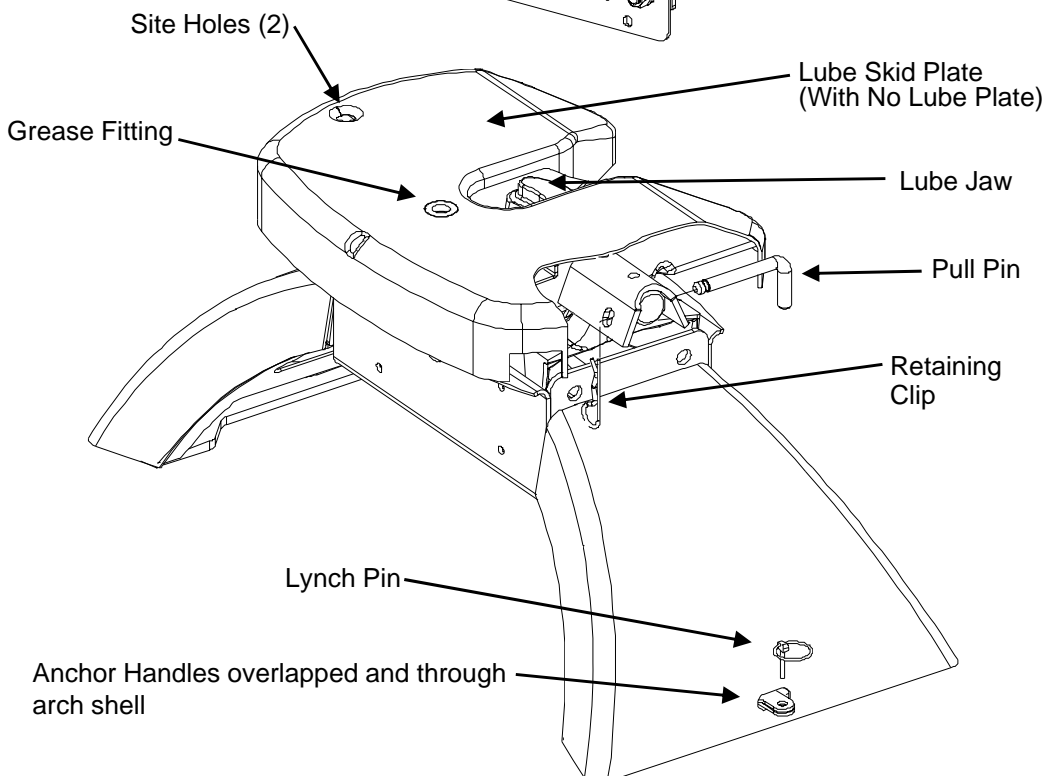

Figure 14 : Pin and Clip (Skid Plate cut away view)
14. Lube jaw and skid plate (If no lube plate is being used) with automotive type chassis grease (see Figure 14). The jaw pin comes greased from the factory. To insure smooth jaw operation, grease should be added every 6 months to grease fitting on top of head (see Figure 14). Refer to the Lubrication section in this manual.
6. Insert pull pin and clip on each side of the head to attach to the hitch center section (Figure 14).
1. Remove pull pin and clip from each side of the head (Figure 14).